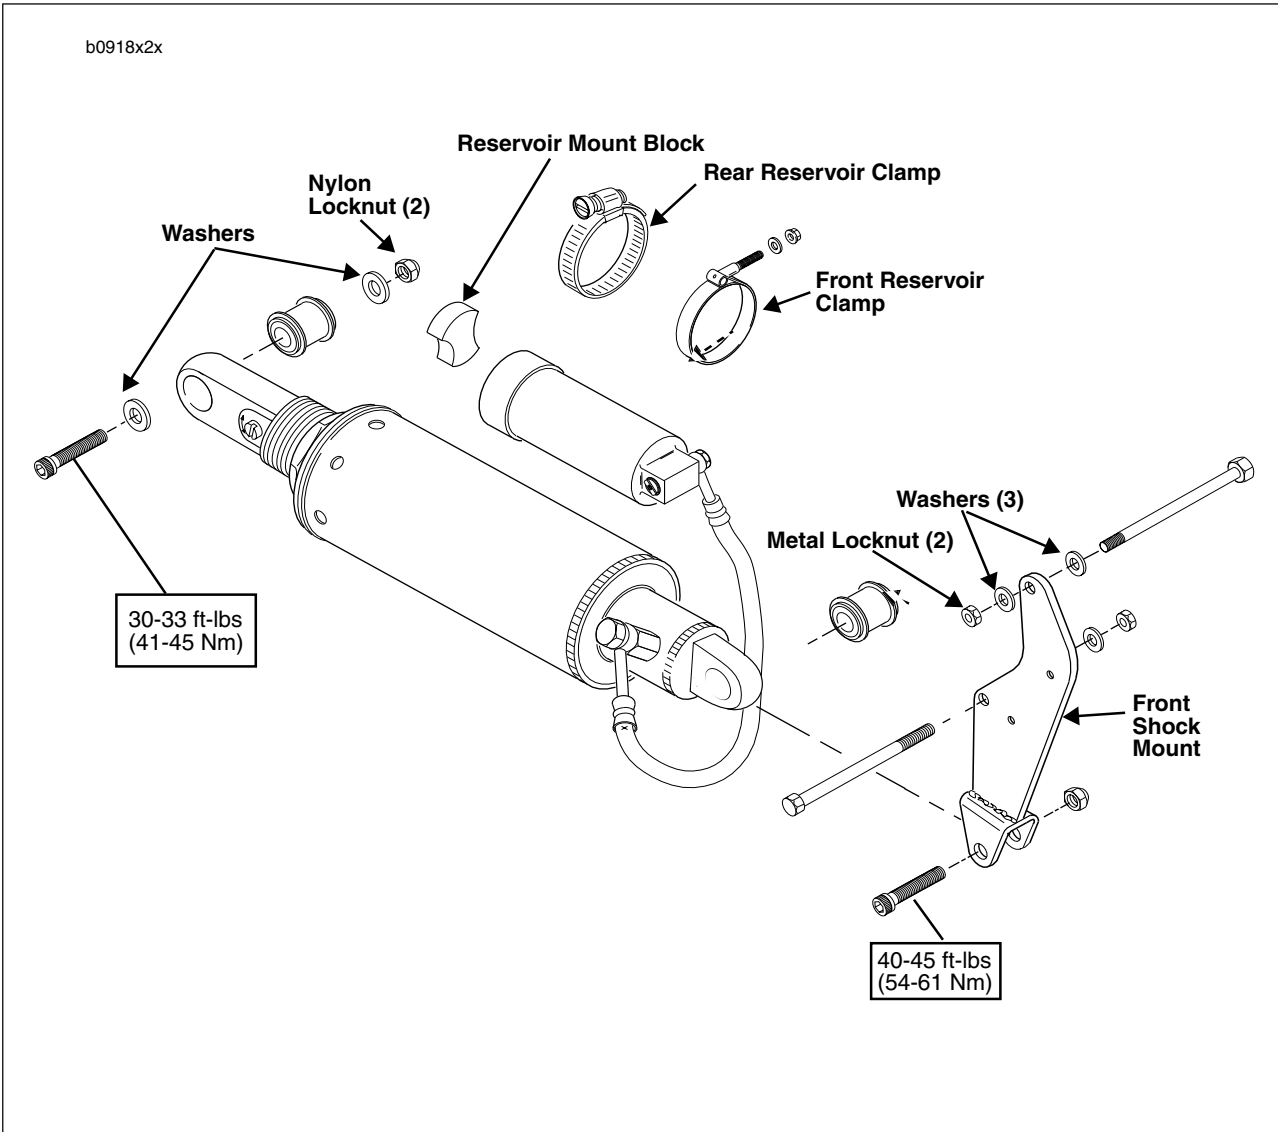

Figure 2-83. Rear Shock Absorber
See Figure 2-83. The rear suspension is controlled by the shock absorber. The shock allows adjustment of rear compression and rebound damping and spring preload.
1. See Figure 2-83. Place **new** bushings into mounting holes of shock absorber (if only replacing bushings).